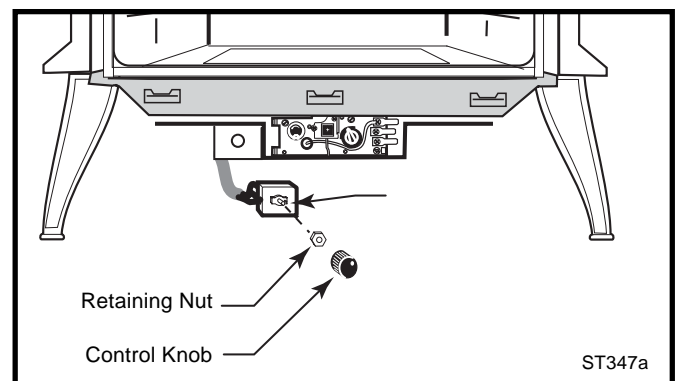

**Fig. 18** Position the fan to engage the inner shroud with the fan bracket slots and secure with sheet metals screws.
7. Position the fan assembly so the ducts slide between the inner and outer shroud. The inner shroud should engage with the two slots in the ends of the bracket so that bracket and shroud are interlocked. (Fig. 18) Secure the bracket with the four sheet metal screws provided in the finish bag.